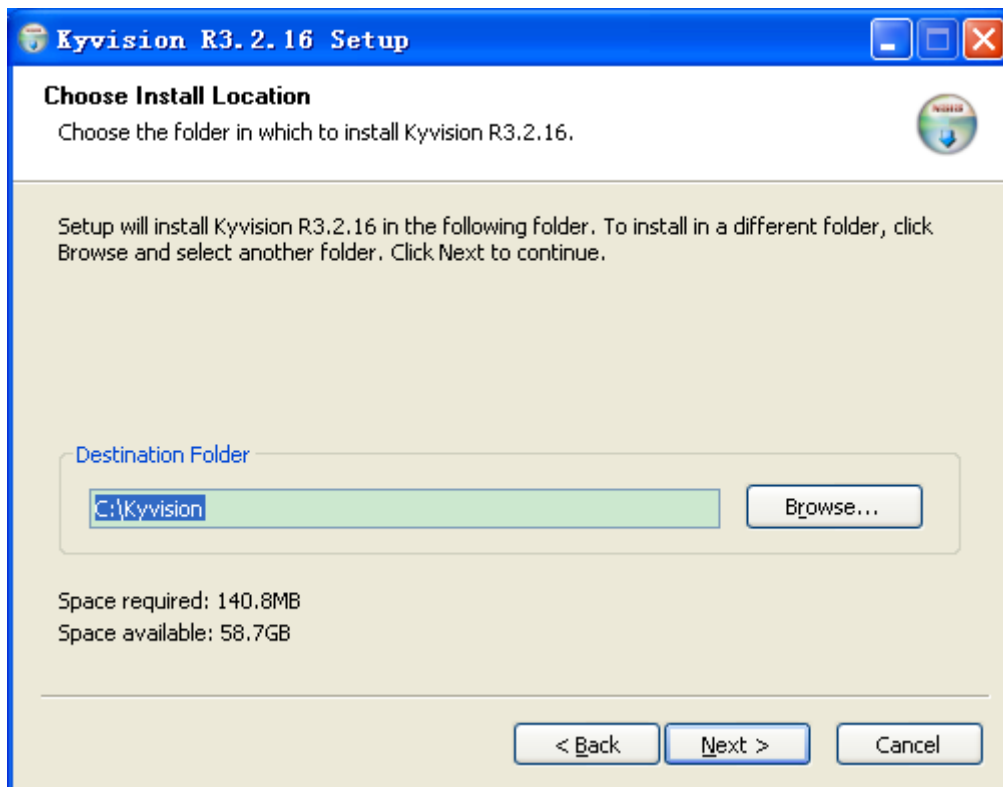

Figure 6 Selecting an Installation Location
5. Select the installation location, as shown in Figure 6. The default location is C:\Kyvision. If you want to select another location, you can enter the